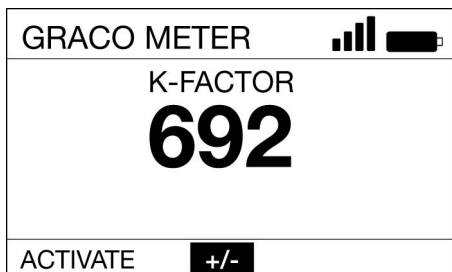

FIG. 22
- Use the RIGHT arrow on the navigation pad to select +/-, then press the ENTER button on the navigation pad (FIG. 22).